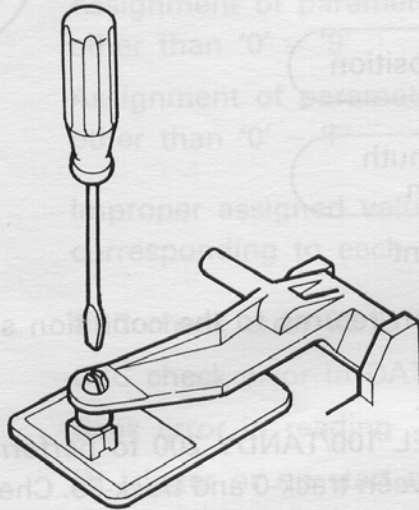

Fig. 8-4. Pad Arm Assembly
- Insert the screwdriver as indicated in Fig. 8-4 to change the head alignment with the pad.